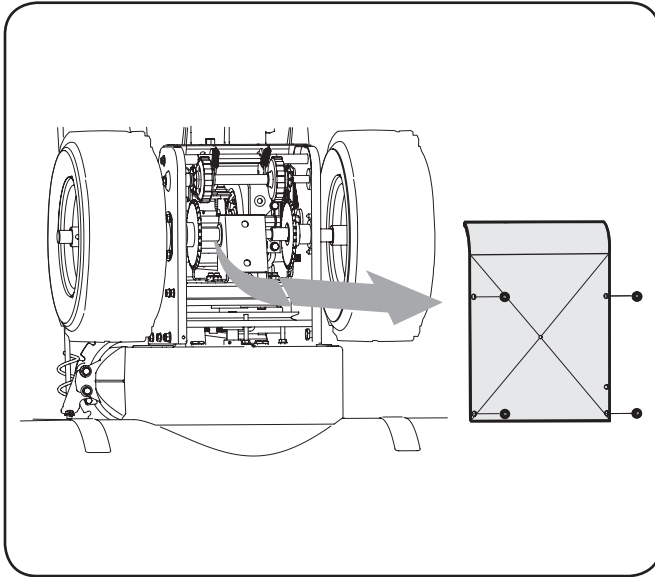

Figure 6-6
2. Remove the frame cover from the underside of the snow thrower by removing four self-tapping screws which secure it. Refer to Figure 6-6.
1. With the snow thrower tipped forward (be certain to drain gasoline), remove the frame cover underneath the snow thrower by removing the self-tapping screws. See Figure 6-6.